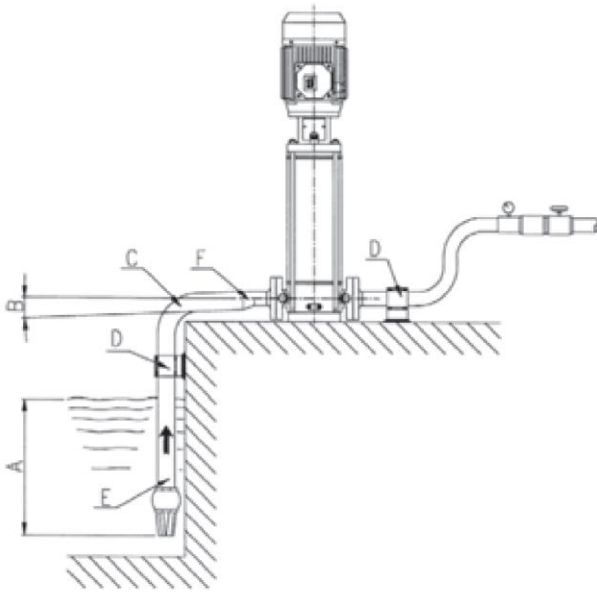

Figure 1. Correct Operation of RSV
E. PIPING. All piping should be independently supported near the pump so that pipe strain will not be transmitted to the pumping unit. Refer to Figures 1 and 2.